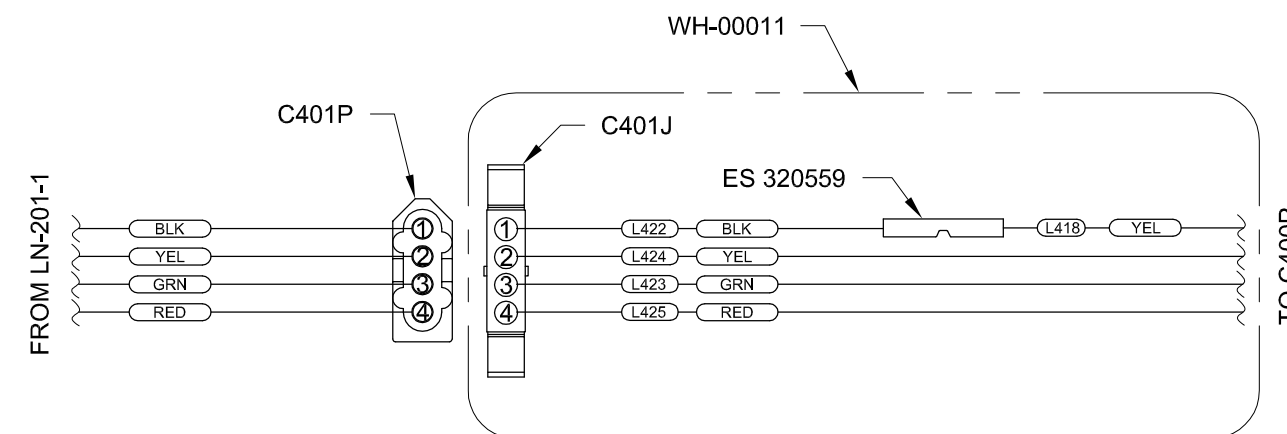
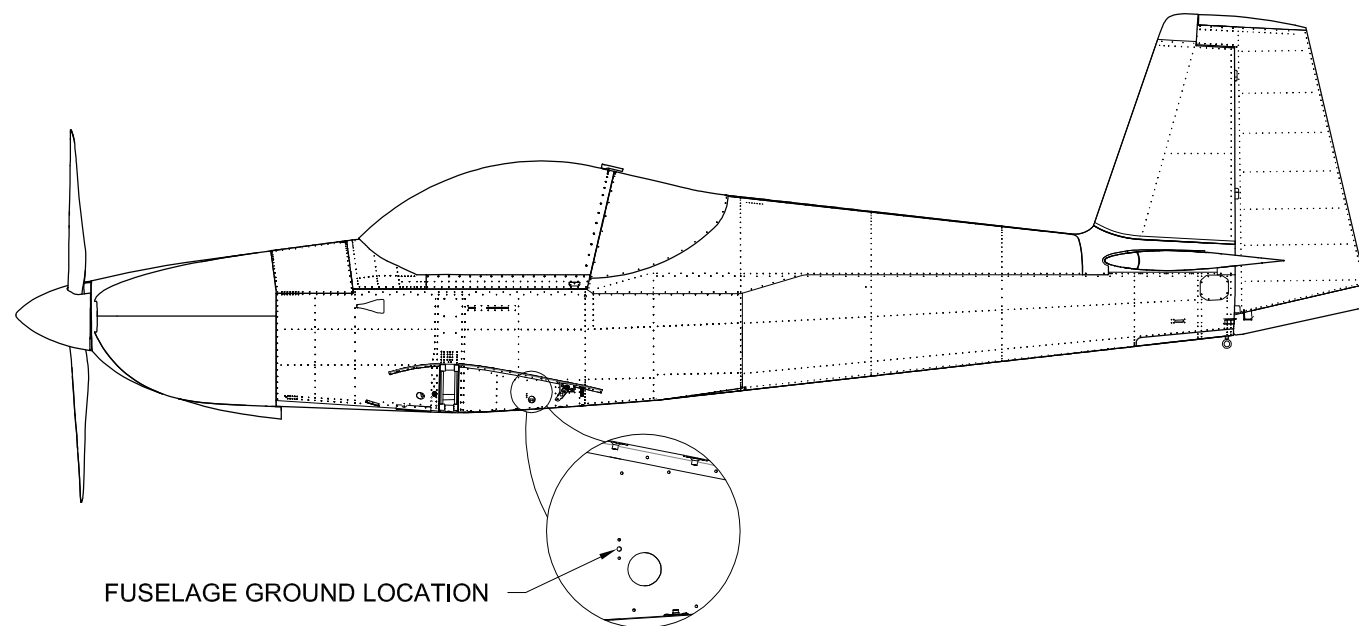

FIGURE 3: WING TIP LIGHTING HARNESS MODIFICATION (IF LANDING LIGHTS WILL NOT BE INSTALLED)
FIGURE 4: GROUND LOCATION
NOTE: The Wing Tip Nav Lights and Landing Light are grounded to the fuselage via the L418 (YEL) wire in the WH-00011 Wing Tip Wiring Harness and the WH-00125 RV-14 Common Fuselage Wiring Harness (installed later). This grounding location was chosen to minimize electromagnetic interference with wing mounted ADAHRS and Magnetometers. See Figure 4.
Step 5: (if Landing Lights will NOT be installed) Strip the L422 (BLK) wire coming from C401J, and the L418 (YEL) wire from the WH-00011 Wing Tip Lighting Harness. Connect these two wires together using the butt splice called out in Figure 3.
NOTE: The ES-00184 Noise Filter is located in the left wing root as shown in Figure 3. The ground location depicted shows a prototype RV-14. See Page OP55-03, Figure 4 for the final production version ground location.